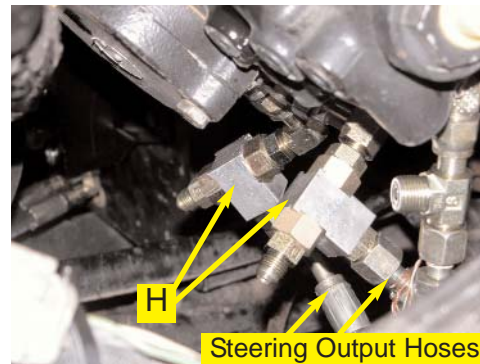

Figure 5c. Installed load shuttles at manual steering valve.
- c. Install the pre-assembled load shuttles with fitting (**J**) attached to the steering valve. One steering output port is larger and requires adapter fitting (**L**) for installation. Reattach the appropriate output hoses to the center port on the load shuttles. (Figure 5c.)